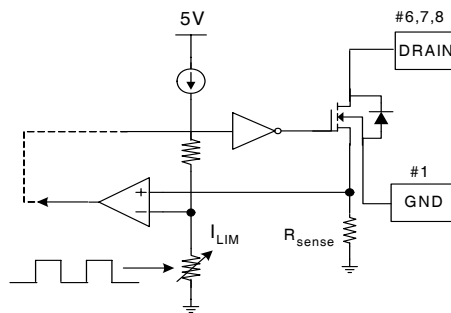

Figure 7. Soft Start Function
5. Soft Start: The FPS has an internal soft start circuit that slowly increases the Sense FET current after startup as shown in Figure 7. The typical soft start time is 10ms, where progressive increments of the Sense FET current are allowed during the start-up phase. The pulse width to the power switching device is progressively increased to establish the correct working conditions for transformers, inductors, and capacitors. The voltage on the output capacitors is progressively increased with the intention of smoothly establishing the required output voltage. This also helps to prevent transformer saturation and reduce the stress on the secondary diode during startup.